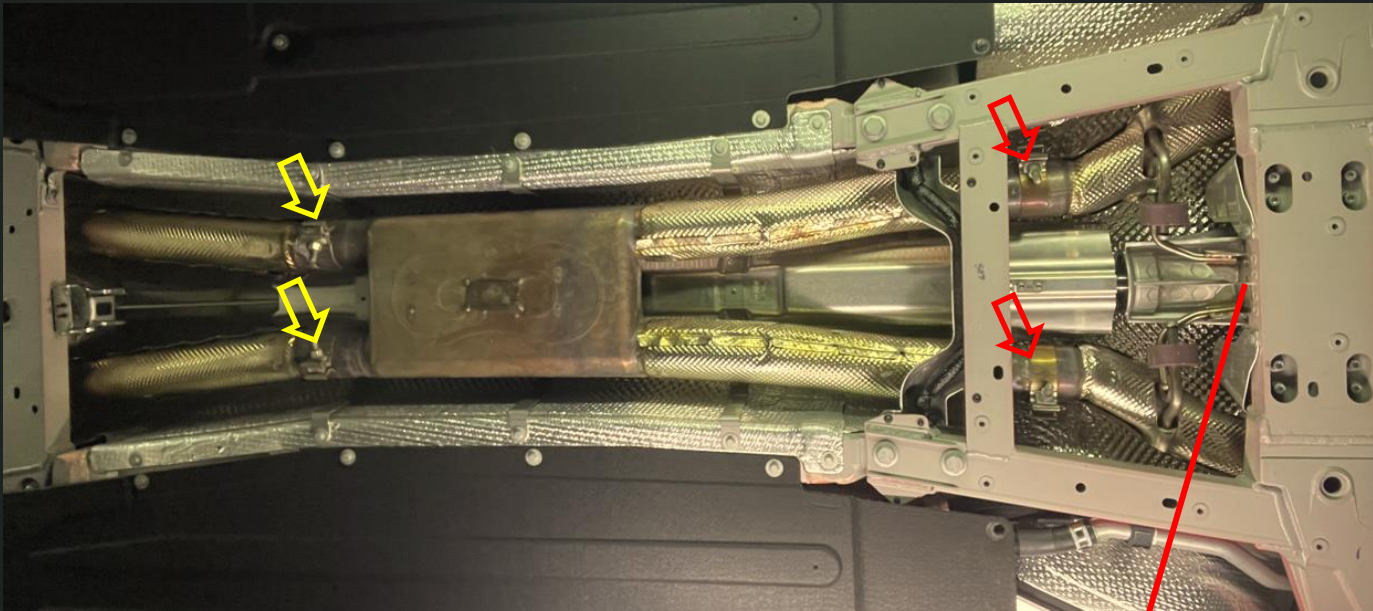

Figure 16
10. Loosen the Rear Section Inlet Clamp Screws (Figure 16, red arrow).
12. Loosen the Midsection Inlet Clamp Screws (Figure 16, yellow arrow) and pull the midsection outwards for removal.